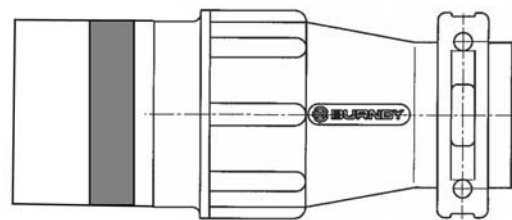

Figure 11: Signal cable connector
6. Plug the other end of the cable with the 12-pin plug in the motor controller. It is a triple cable for the temperature sensor, the cooling unit and the display (see Figure 11).